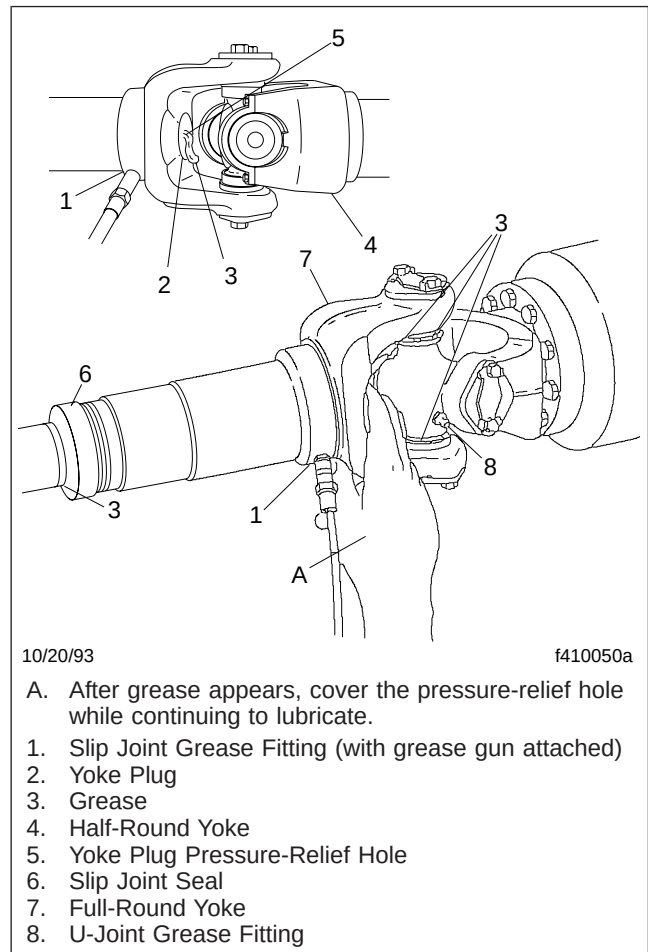

Fig. 5, Slip Joint and U-Joint Lubrication
9. For driveshafts with slip joints, check to be sure the yoke plug is not loose or missing. See Fig. 5, Ref. 2. Repair or replace the yoke plug as needed. If the yoke plug is missing, the splined shaft may be hitting the plug and knocking it out; contact your Regional Service Office for assistance in determining the correct driveshaft length.
2. Wipe all old grease and dirt from each U-joint grease fitting. See Fig. 5, Ref. 8.
1. If equipped with a grease fitting, wipe all old grease and dirt from the slip joint grease fitting. See Fig. 5, Ref. 1.
2. Use a hand-type grease gun or a high-pressure gun with a low-pressure adapter, to lubricate the slip joint. Add multipurpose chassis grease (lithium 12-hydroxy stearate, NLGI Grade 1 or Grade 2, with EP additives) until it appears at the pressure-relief hole in the yoke plug. Then cover the relief hole with your finger, while continuing to apply gun pressure until new grease appears at the slip joint seal. See Fig. 5. This ensures complete lubrication of the splines.